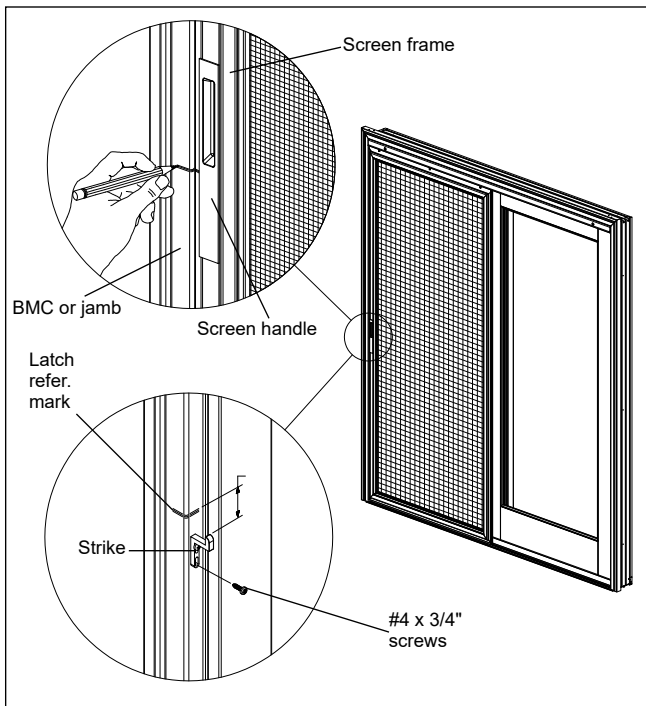

Figure 6
2. Open and slide the screen out of the way. Position strike on the jamb $1/8"$ (3) below the latch reference mark. Center the strike on the jamb so that it will fall between the interior and exterior of the screen. See figure 6. Mark the center of each screw slot on jamb. Drill pilot holes with a $3/32"$ (2) drill bit. Place the strike on jamb and fasten with the two #4 x $3/4"$ pan head screws at the center of the adjustment slots. Close screen and check latch operation. Raise or lower the strike as needed. See figure 6.